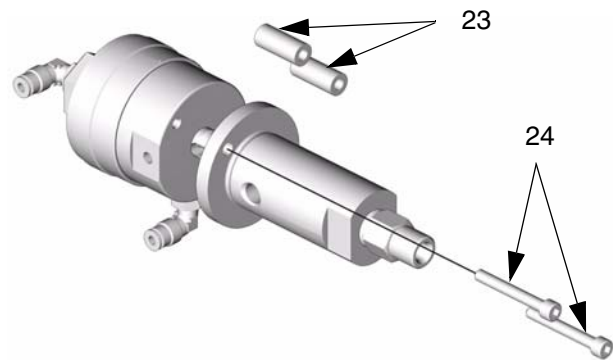

FIG. 2
4. Remove screws (24) and spacers (23). See FIG. 2.
2. Insert spacers(23) and screws (24) and torque to 60 ± 10 in. lbs (6.77 ± 1.1 N*m). See FIG. 2.
3. Screw the valve cap (10) down tight with the housing (7).
4. Unscrew the valve cap (10) one complete turn for the factory needle setting, or unscrew cap to setting prior to repair.